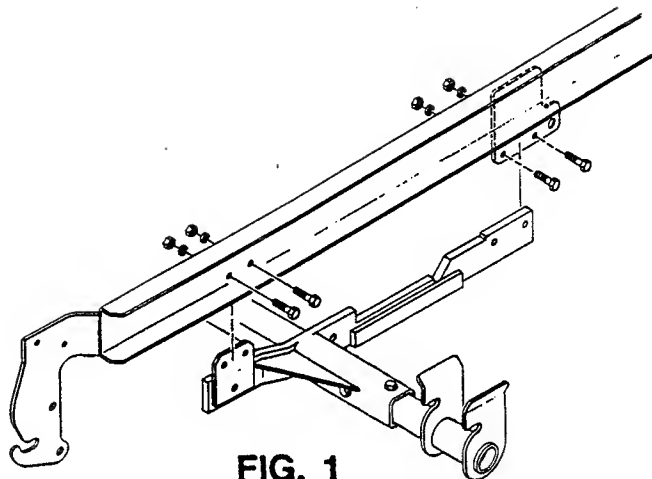

FIG. 1
- Place the subframe under the tractor. Raise the subframe and secure the front of the subframe to the tractor frame. Use (2) 1/2-13 x 1-1/2 hex head capscrews, lockwashers, and nuts on both sides. See Fig. 1.
- Secure the rear of the subframe to the tractor frame. Use (2) 1/2-13 x 1-1/2 hex head capscrews, lockwashers and nuts on both sides. See Fig. 1.